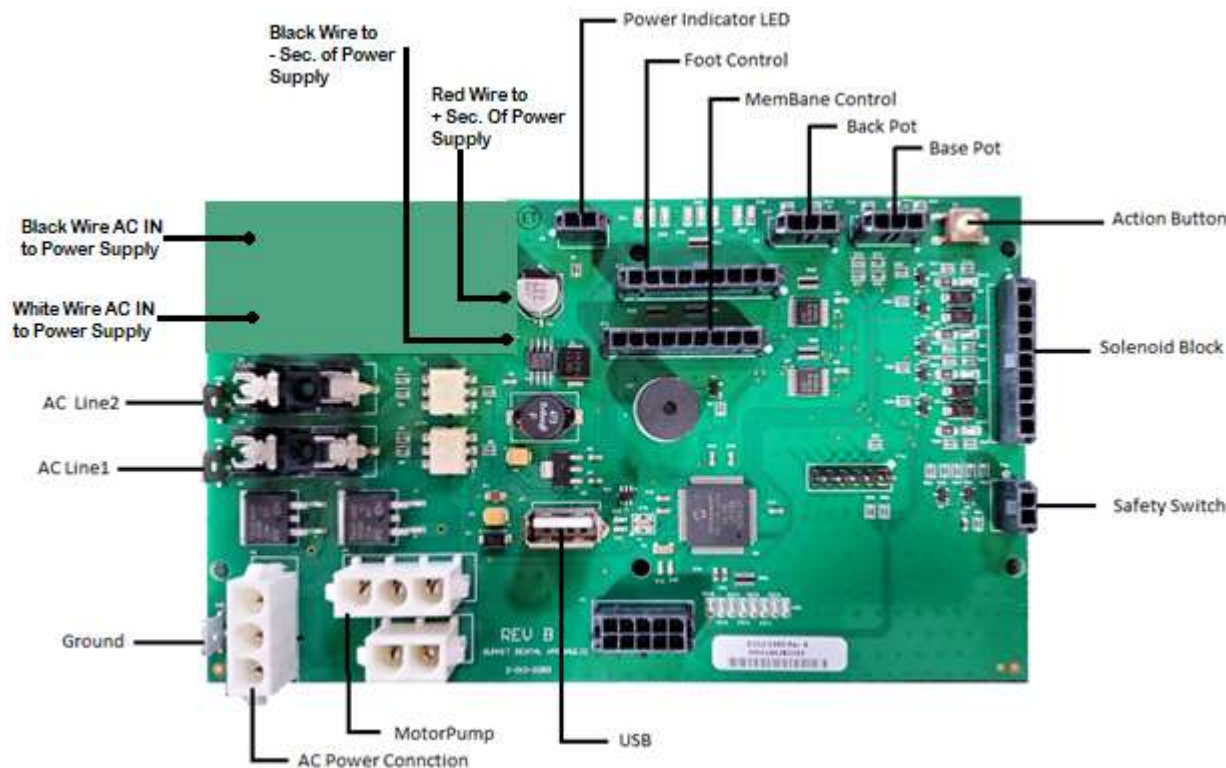

Figure 19
Refer to Figure 19
1. Press and release action button 7 times (refer to figure19)